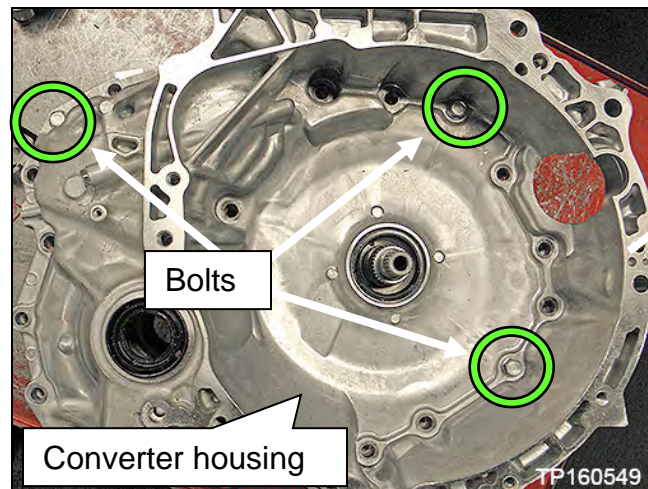

Figure 2E
2. Temporarily install the converter housing onto the CVT case with three bolts finger tight (Figure 2E).